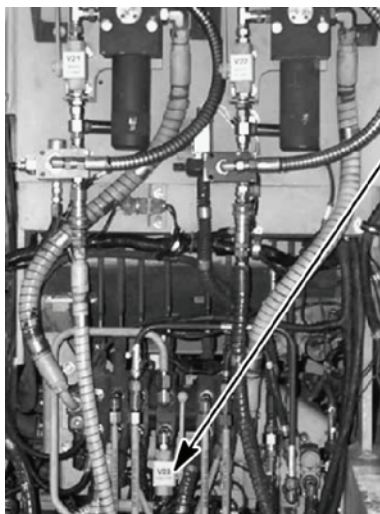

Figure 7. DCV Bank
- Disable ejector by manually closing the ejector inhibit ball valve V23 (Figure 7, item 1) on the DCV bank. Using LINE UP or LINE DOWN button (Figure 8, item 3), select V1 on the HDC display (Figure 8, item 2). Close V1 on the HDC display (Figure 8, item 2) by selecting the CHANGE POSITION button (Figure 8, item 4) on the HDC control box.
- Manually open the ejector inhibit ball valve V23 (Figure 7, item 1) on the DCV bank. Using LINE UP or LINE DOWN button (Figure 8, item 3), select V1 on the HDC display (Figure 8, item 2). Open V1 on the HDC display (Figure 8, item 2) by selecting the CHANGE POSITION button (Figure 8, item 4) on the HDC control box.